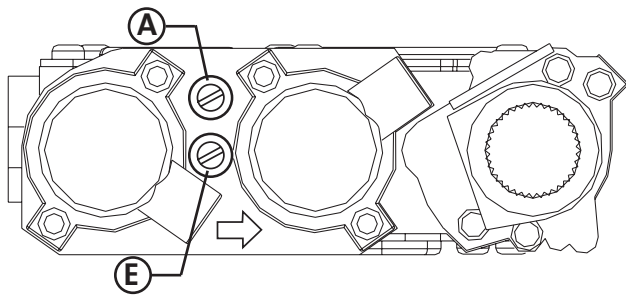

Figure 29. Pressure test points.
**Pressure Test:** Attach a manometer to the appropriate test point on the valve. See fig. 29. The gauge connections are located on the front of the valve. Connections are identified by: